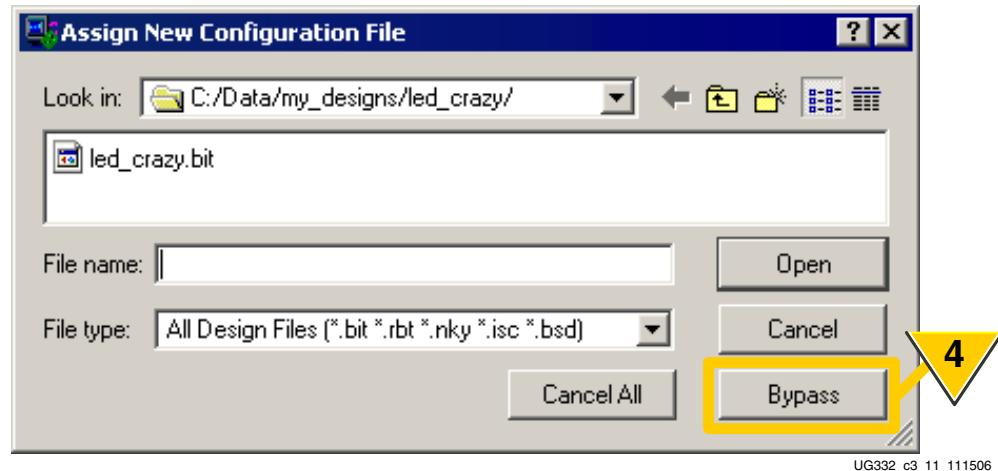

Figure 3-16: Bypass Programming the FPGA
4. In this example, the XC3S700A precedes the XCF04S Platform Flash PROM in the chain. The FPGA does not need to be programmed in order to program the Platform Flash PROM. The iMPACT software prompts for the FPGA bitstream, as shown in Figure 3-16. Click Bypass to skip programming the FPGA.